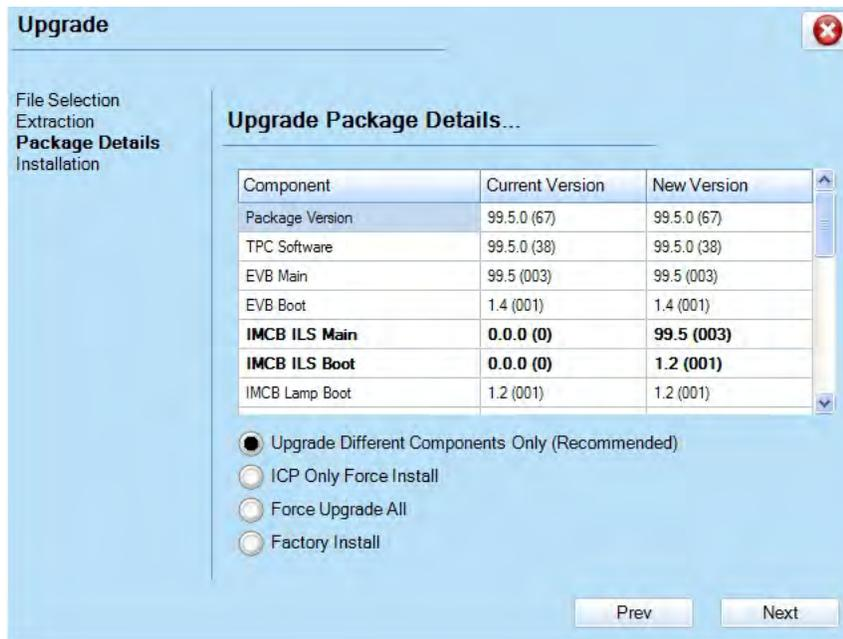

Figure 3-17 Upgrade: Package Details Window
4. The **Package Details** window shows the versions of all components installed in the projector. (Figure 3-17). Select the type of install to perform: **Upgrade Different Components Only**, **Force Upgrade All**, or **Factory Defaults Install** and touch the **Next** button to advance to the **Installation** window.